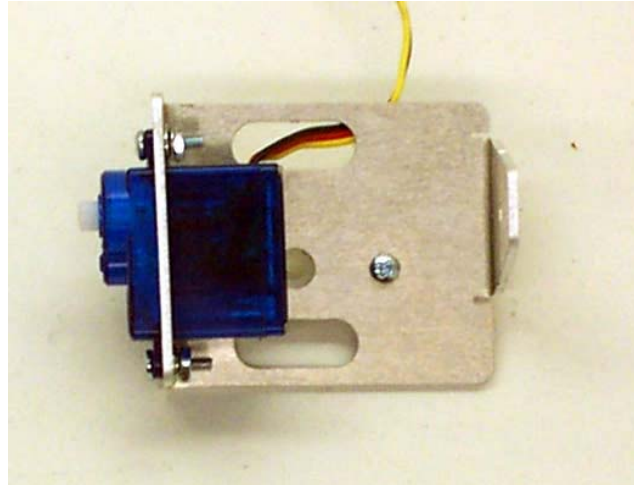

Figure 3
3. Mount the miniature servo to the scanner base as shown in Figure 3. Use #2-56 x 5/16" screw and secure with a washer, lock washer and nut. The mounting holes for the servo are drilled out to accept the # 2 screws. Make sure the servo is positioned as shown in the figure (the pivot arms are lined up).